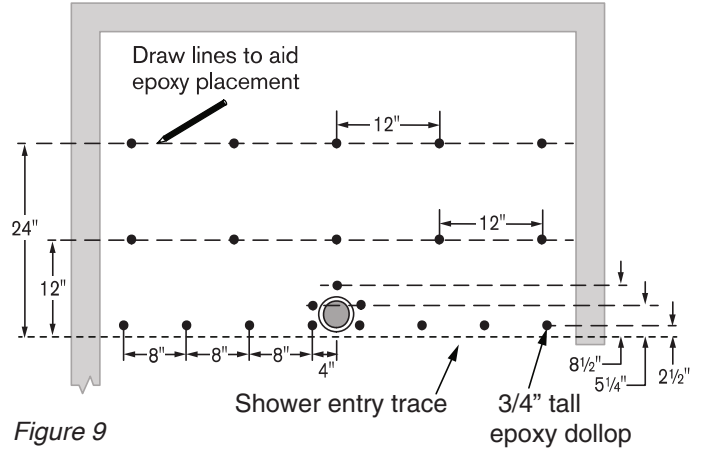

Figure 9
- 5** Sweep the subfloor and remove all debris from the pocket area and the underside of the unit so the supplied epoxy will adhere properly. The floor may be damp, but there should be no standing water. Figure 9 shows the epoxy pattern required for installation.